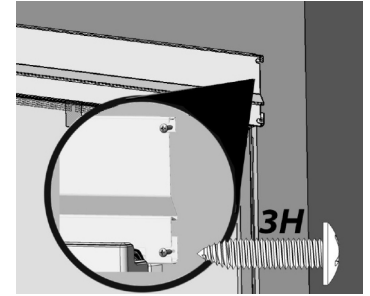

Fig. 13
- b. Drill $\frac{1}{8}$ " pilot holes and fasten two 3H screws on the right side of the Top Trim with a Phillips screwdriver to cabinets (Fig. 13).